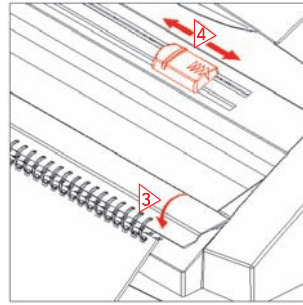

Figure-6
- ▶ Move the **adjuster** left or right for the chosen wire comb as shown figure-6.